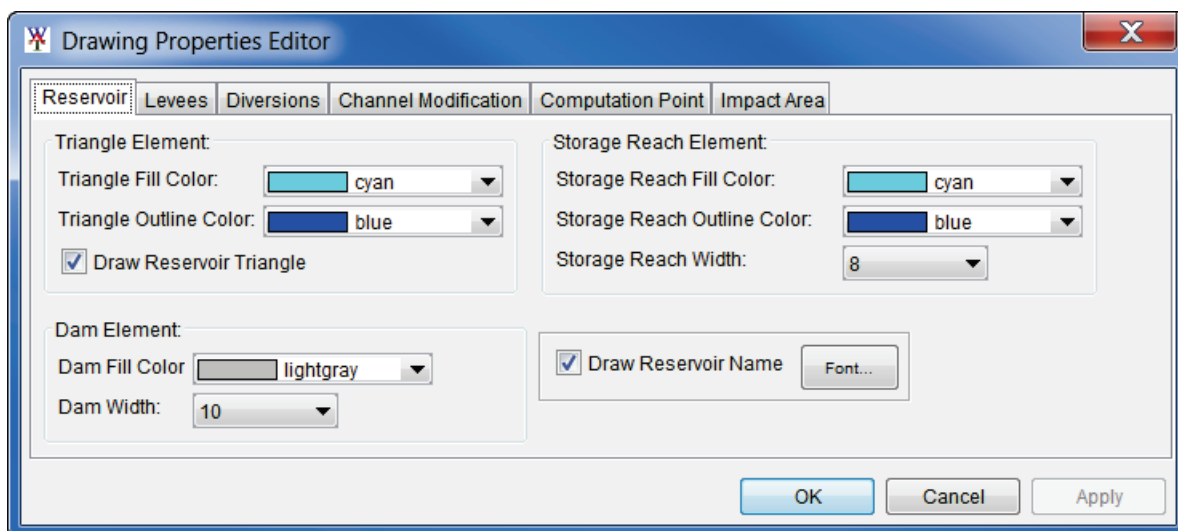

Figure 5.24 Drawing Properties Editor
**Properties** – opens the **Drawing Properties Editor** (Figure 5.24) which allows the user to edit properties of the elements that are part of the **Schematic Layer**.
1. From the **Maps** tab, right-click on a **Schematic Layer**. From the shortcut menu, click **Properties**, the **Drawing Properties Editor** will open (Figure 5.24). The **Drawing Properties Editor** has six tabs, which represent the elements available in the study.
3. For example, from the **Reservoir** tab (Figure 5.24) the user can set the width and colors of the different elements that make up a reservoir, whether to draw the reservoir polygon (triangle), whether to draw the reservoir label, and set the font for the reservoir label. The **Triangle Fill Color**, **Triangle Outline Color**, and **Draw Reservoir Triangle** affect the polygon (triangle) of a reservoir. The **Storage Reach Fill Color**, **Storage Reach Outline Color**, and **Storage Reach Width** affect the storage reach of a reservoir. The **Dam Fill Color** and the **Dam Width** affect the dam of a reservoir.
4. By default, the labels for the reservoirs appear in the display area. If the user does not want to display the labels, clear **Draw Reservoir Name**; click **Apply** (Figure 5.24), and the reservoir labels no longer appear in the display area. To change the font of the reservoir labels, click **Font**. A **Font Chooser** opens (Figure 5.17), select the font type from the **Type** list, and either select a size from the **Size** slider or enter a size. Click **OK**, the **Font Chooser** closes, from the **Drawing Properties Editor** (Figure 5.24), click **Apply**. Now all of the reservoir labels will display in the font and size chosen. The other elements in the **Drawing Properties Editor** have similar properties.